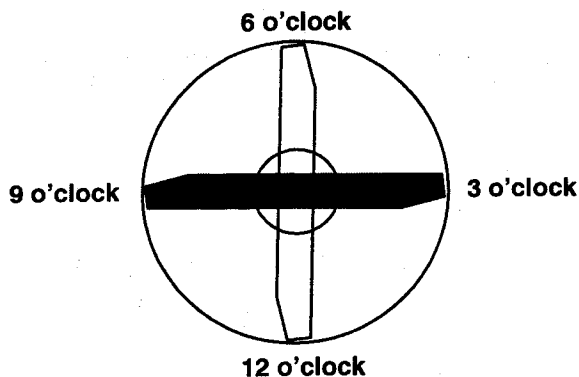

Figure 11
4. Position cutting edge of marked end of blade at 12 o'clock (straight ahead in direction of mowing) (Fig. 11) and measure height from table to cutting edge of blade.
5. Rotate marked end of blade to the 3 and 9 o'clock positions (Fig. 11) and measure heights.